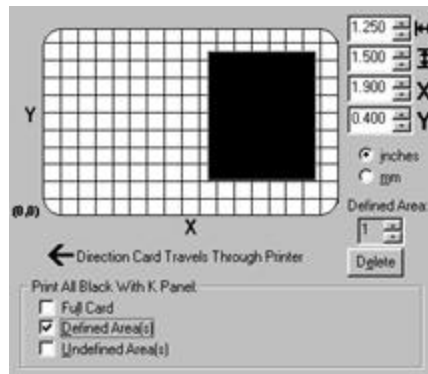

Figure 3-9
2. Select the **Defined Area(s)** option to print the resin black (K) panel for all black found only in an area or areas defined. See Figure 3-9.